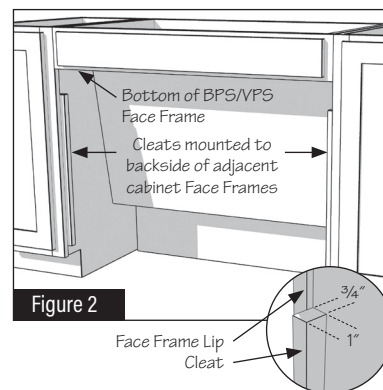

Figure 2
- 3 Cut remaining S3S into two 1"x 20" x 3/4" cleats and attach them to the back side of the adjacent cabinet "Face Frame lips". (Fig. 2)
- 3 Corte S3S restante en dos listones de 2.54 cm x 50.8 cm x 19.05 mm y fíjelos a la parte posterior del gabinete adyacente "Bordes del marco frontal". (Fig. 2)